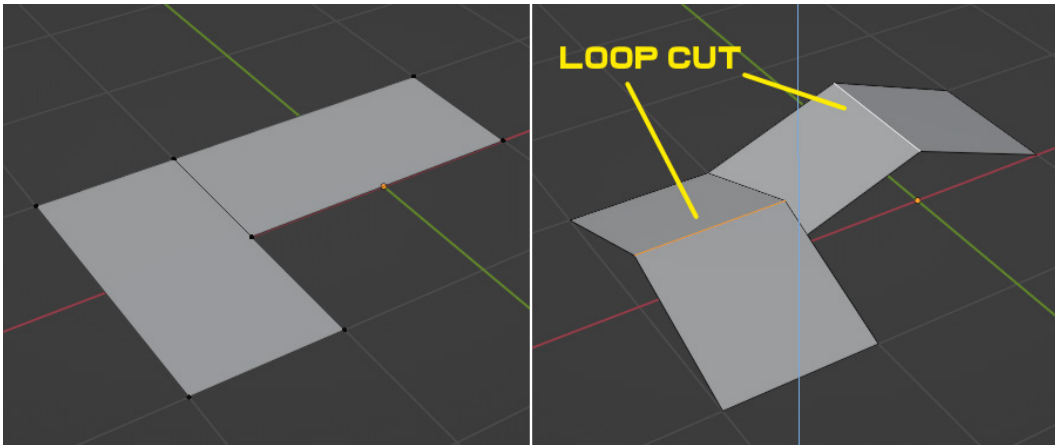

Figure 6.1 – Two planes
1. Create two planes and place them as shown in *Figure 6.1*. Add a loop cut in the middle of each plane by pressing *Ctrl + R* and lifting it up: